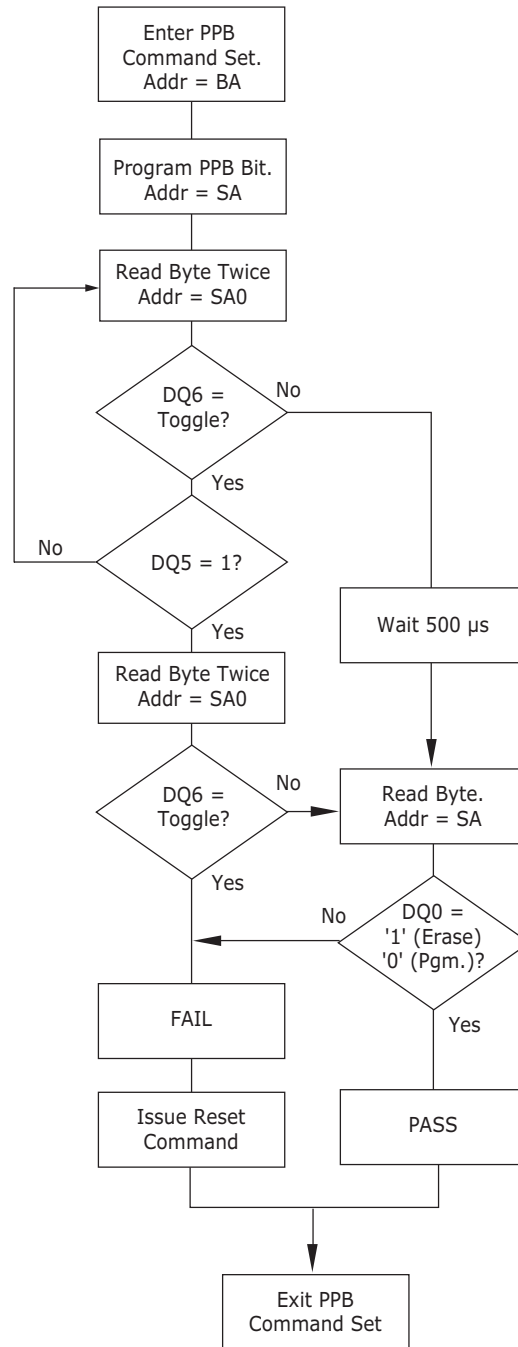

Figure 2. PPB Program/Erase Algorithm
11. The programming state of the PPB for a given sector can be verified by writing a PPB Status Read Command to the device as described by the flow chart shown in Figure 2.